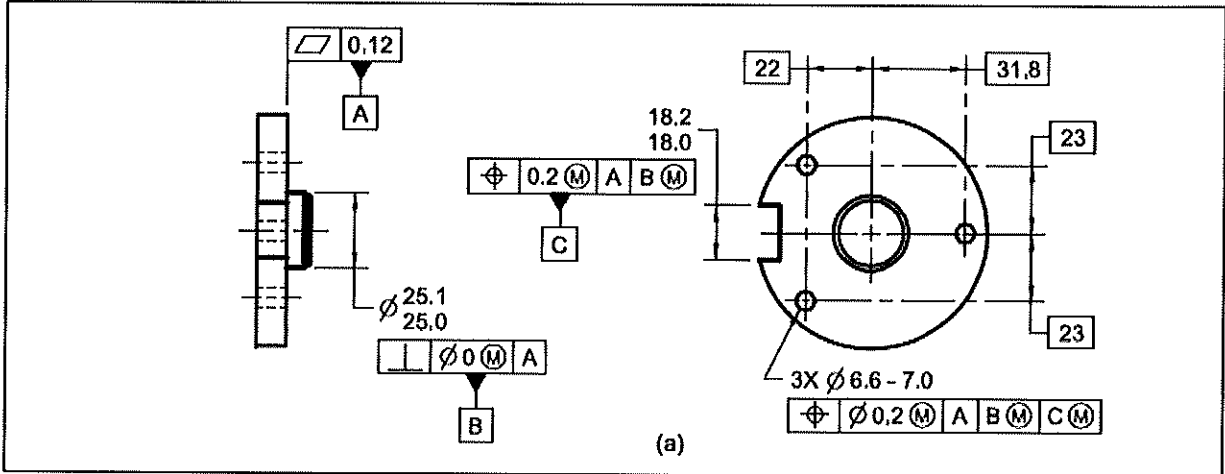

Figure-1
3. Consider the part in Figure-1
4. [5] Draw theoretical gage(s) necessary to check the size of the slot (in Figure-1)
5. [5] Draw a theoretical gage for the perpendicularity tolerance (in Figure-1)
6. [5] Draw a physical gage for the perpendicularity tolerance (in Figure-1)
7. [10] In Figure-1, Determine the size limits of the mating hole for the center boss such that $P_{\min}=0$ and $P_{\max} = 0.3$ mm. The mating hole uses zero perpendicularity tolerance at MMC.
The following problems is not related to Figure-1